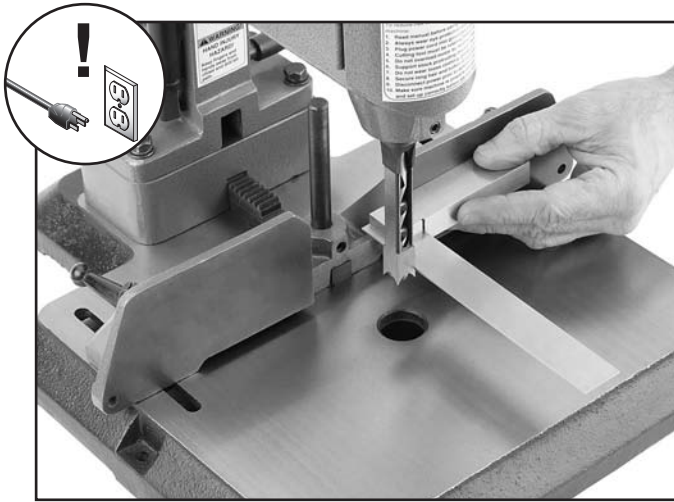

Figure 21. Squaring chisel to fence.
9. Place a square against the fence and chisel, as shown in **Figure 21**, to verify that the chisel is square to the fence.